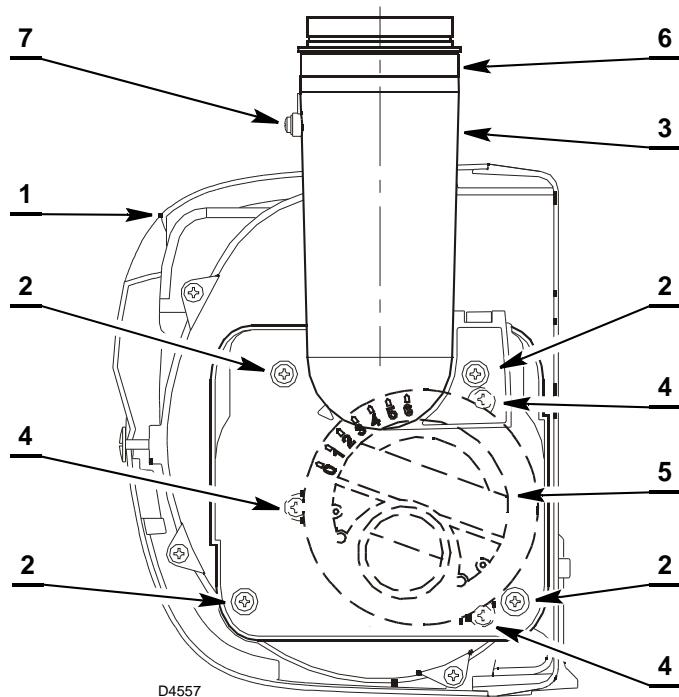

Fig. 18
Depending on burner output, regulate air by rotating the feeder 5) (Fig. 18) and then the regulator 6).
- Remove the hood from the burner 1) (Fig. 18), loosen the four screws 2) and remove the casing assembly 3).
- Loosen the screw 7) (Fig. 18), turn the regulator 6) to the position required as per to the values shown in the Tab. A page 17.